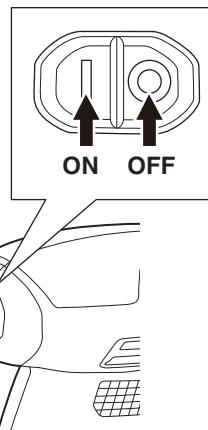

Fig. 13
3. Switching the sander ON and OFF (Fig. 13)